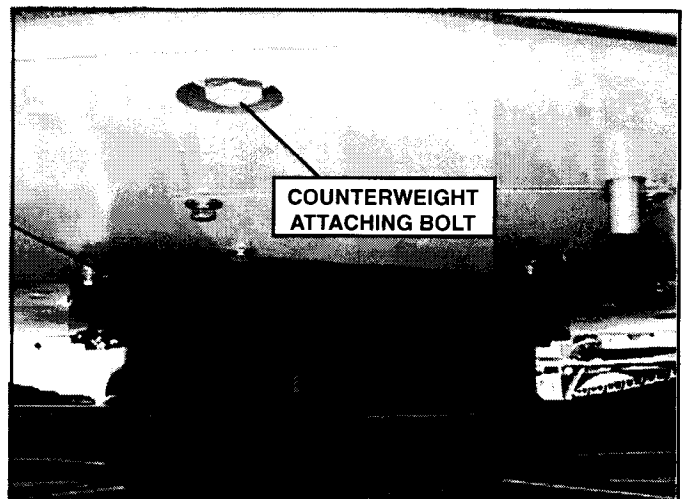

FIGURE 4.85A
C. Inspecting counterweight attaching bolts for loosening - Figure 4.85A